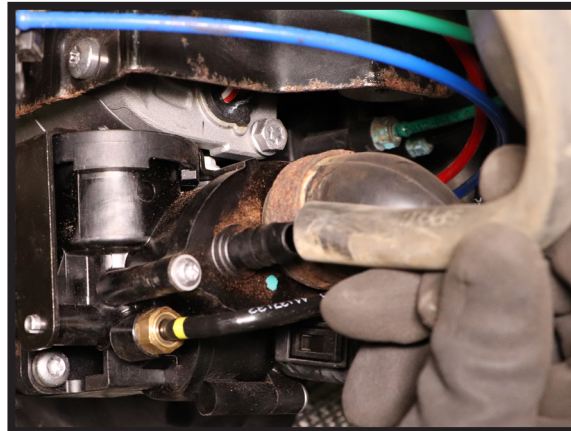

FIGURE 39
9. RECONNECT THE AIR INTAKE LINE. (FIGURE 39)